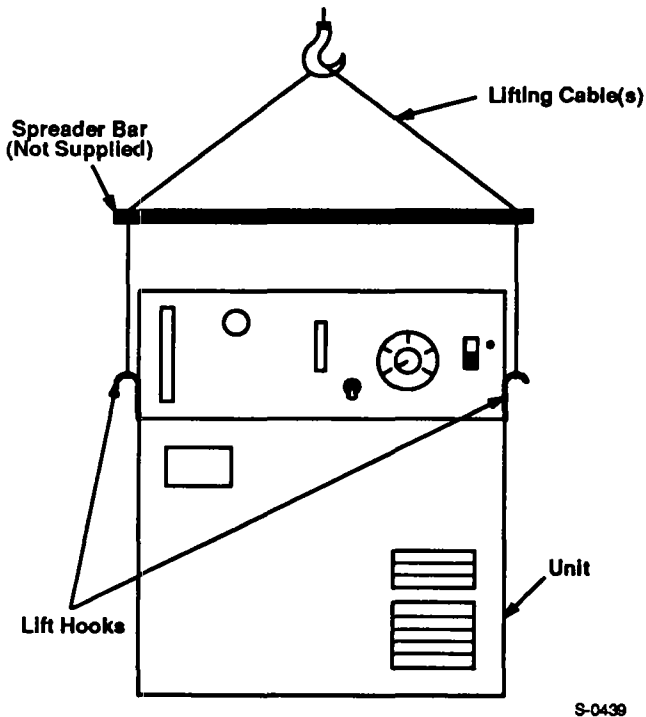

Figure 4-1. Lifting Unit Using Lift Hooks
4-2. TRANSPORTING METHODS (Figure 4-1)
- Use spreader bar (not supplied) when transporting this unit using the supplied lifting hooks (see Figure 4-1).
Installation And Use Of Lifting Hooks (Figure 4-1)
3. When lifting unit by lifting hooks, be sure to use a spreader bar (not supplied) of adequate size to prevent the lifting cable(s) from putting pressure on the sides of the unit causing the cover to bend (see Figure 4-1).